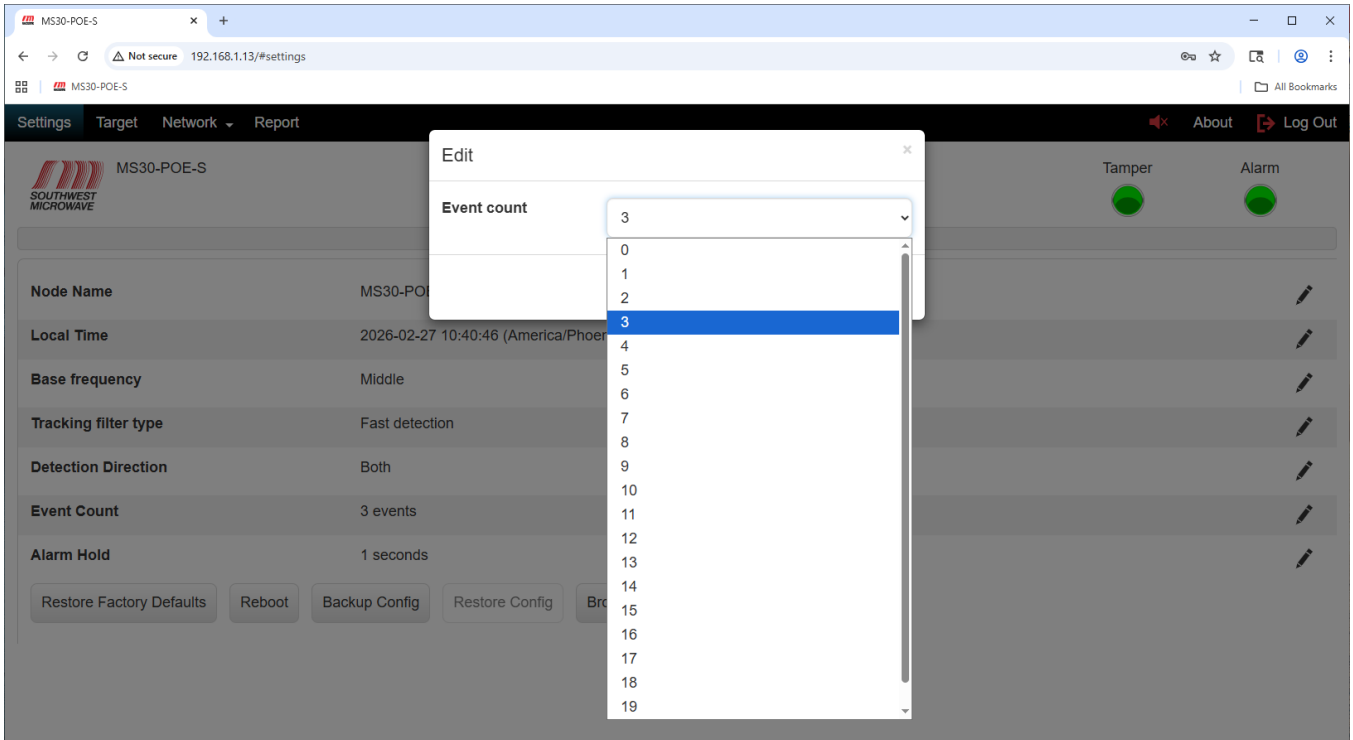

Figure 9.7 – Event Count
To edit the Event Count, select the pencil icon at the end of the Event Count field (far right on screen) to open the “Event Count Edit” dialog box. Select the pull-down menu to display the twenty (20) settings as shown in Figure 9.7. Select the appropriate setting per site requirements and select the “Submit” button to set it. Select the “Cancel” button to end the task.